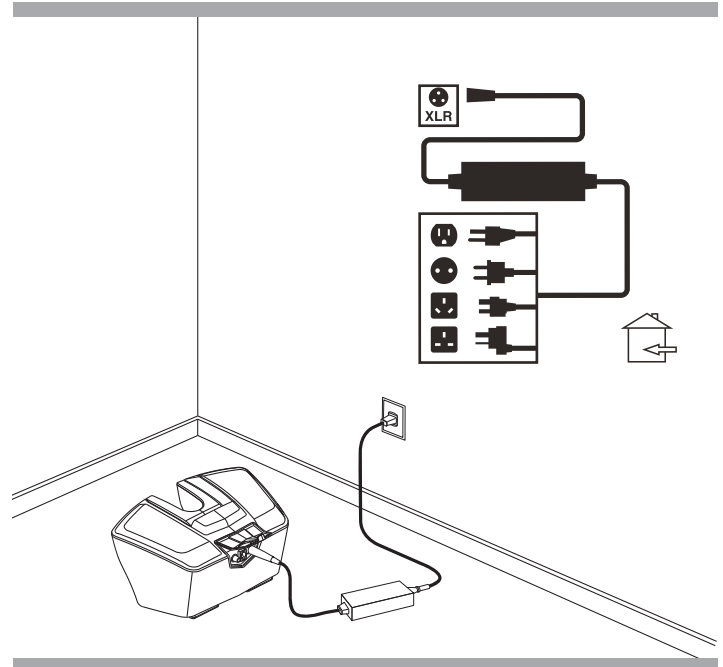

Figure 13. Battery Charging
3. Plug the off-board charger into the battery box charger port. **See figure 13.**